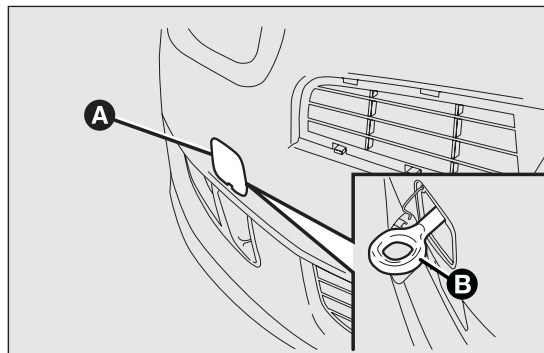
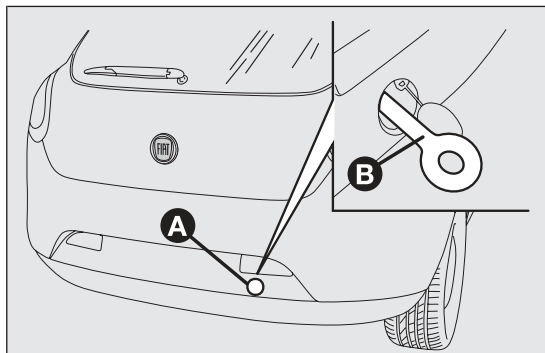

fig. 196
fig. 197
- ☐ release the cap by operating on tab A fig. 196–fig. 197;